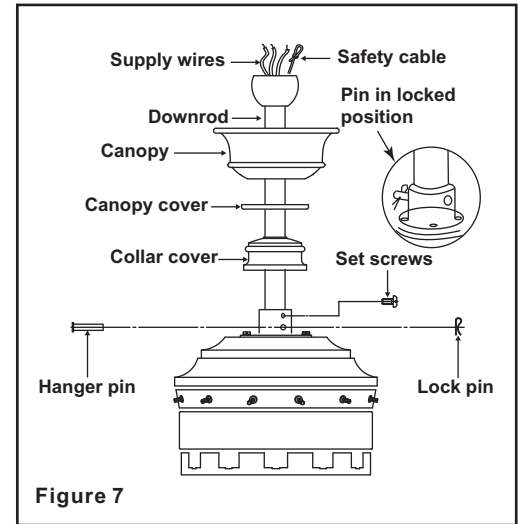

Figure 7
Step 5. Remove the hanger pin, lock pin and set screws from the top of the motor assembly. (Fig. 7)
Step 6. Route the safety cable and wires exiting from the top of the fan motor through the collar cover, canopy cover, and then through the ball / downrod. (Fig. 7)
Step 7. Align the holes at the bottom of the downrod with the holes in the collar on top of the motor housing (Fig. 7). Carefully insert
the hanger pin through the holes in the collar and downrod. Be careful not to jam the pin against the wiring inside the downrod. Insert the locking pin through the hole near the end of the hanger pin until it snaps into its locked position, as noted in the circle inset of Fig. 7.
Step 8. Tighten two set screws on top of the fan motor firmly. (Fig. 7)